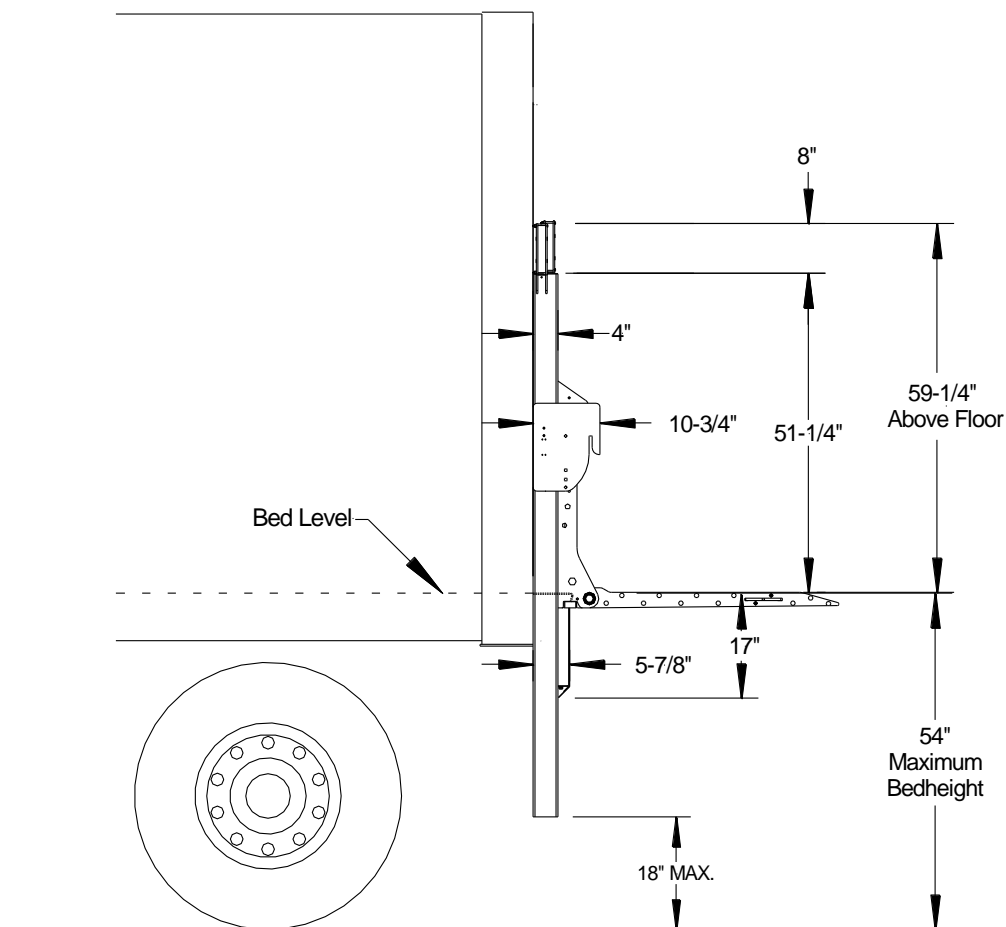

Fig.3
1. Measure Floor Height: Measure the floor height of your truck and determine clearance requirements for your liftgate platform size, **Fig.3**.